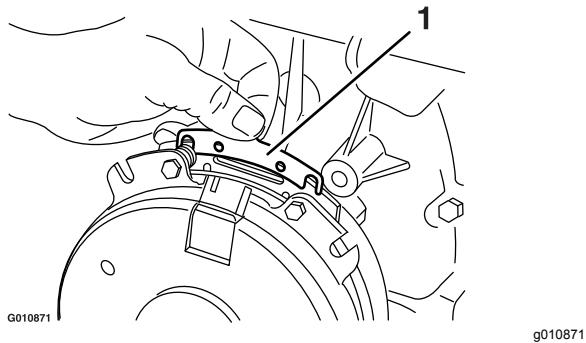

Figure 72
B. Using needle-nose pliers, or by hand, hold the tab and remove the shim (Figure 72).